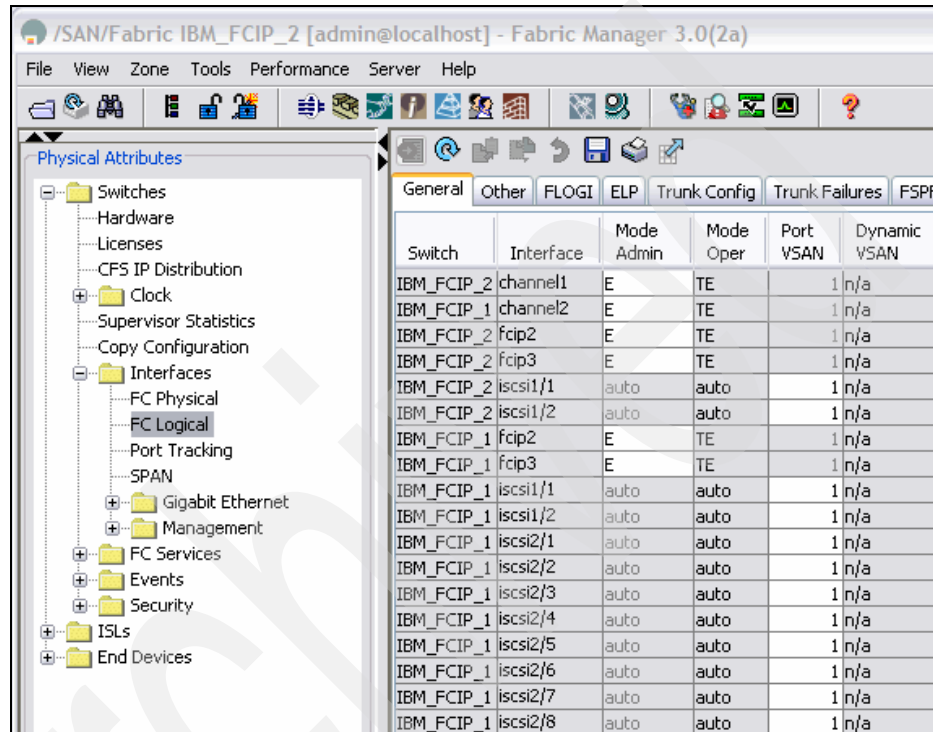

Figure 12-35 FM path for displaying FC Logical information
- Next, we look at the FC logical information in FM to verify the PortChannel operation. In FM, from the Physical Attributes panel, open the **Switches** → **Interfaces** folder, and select **FC Logical**, as shown in Figure 12-35. The pane above the FM map changes, and the General tab shows us our channels. In our scenario, the two channels, one and two, make up our ISL.